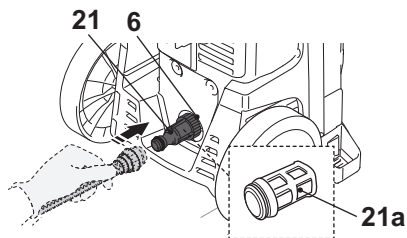

Fig. 16
1. Attach the water inlet hose adaptor (21) on the water inlet (6) (Fig. 16).
2. Attach a suitable water hose (not included) onto the water supply and then the other end onto the water inlet hose adaptor (21).